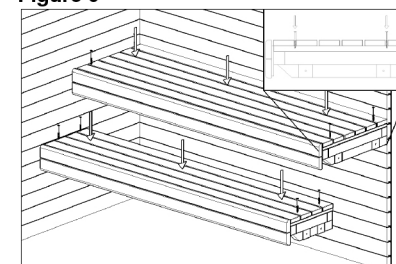

Figure 9
9. Mount the lower and upper bench grid onto the frame and fasten the grids from the upper side to the bench frame using four 5x80 mm screws. This is to prevent the grids from bending. (Figure 9)